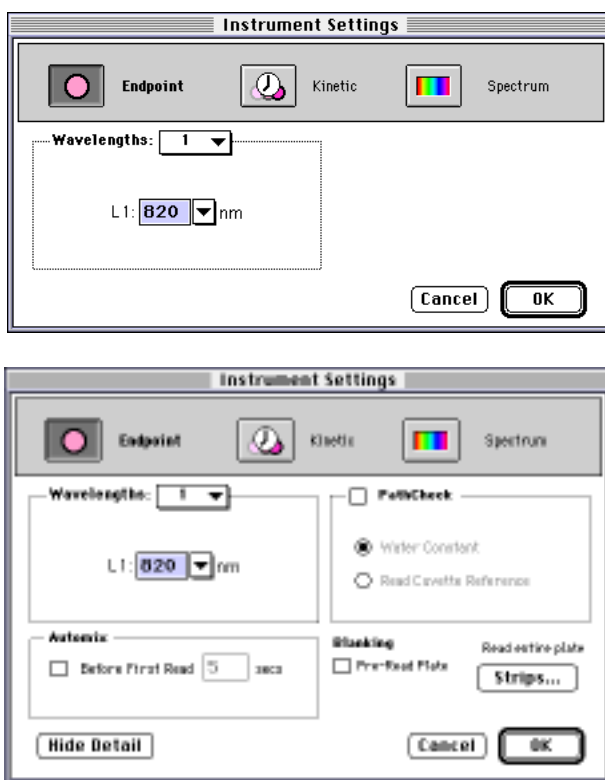

Figure 1: The Instrument Settings dialog box set up for a cuvette (upper) or plate (lower)
- Step 2** Set up the Instrument Settings dialog box as shown in Figure 1 for a cuvette (upper) or for a plate (lower). Select to perform an end-point read at 820 nm. DO NOT SELECT PATHLENGTH CORRECTION (i.e., leave the PathCheck checkbox unchecked). The phosphomolybdate absorption band extends into the near IR and interferes with the measurements needed for pathlength calculation.